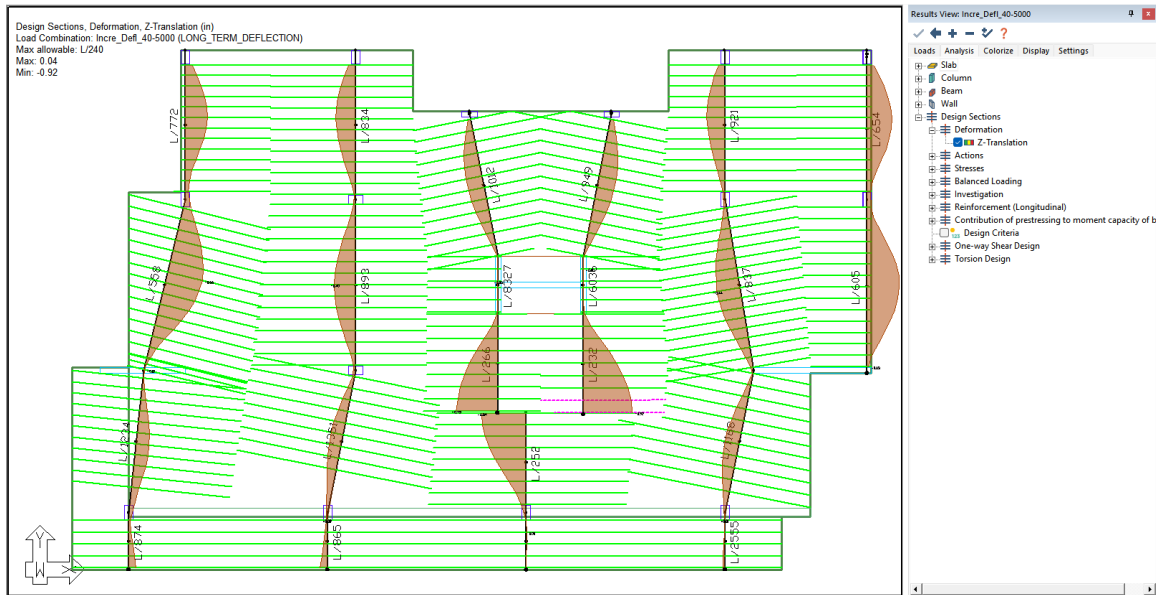

FIGURE 9-90
- We can see there is no span where the deflection is not passing (NG) in this direction.
- The user should now see the deflection to span ratios along the Y-direction support lines as shown in **FIGURE 9-90**.